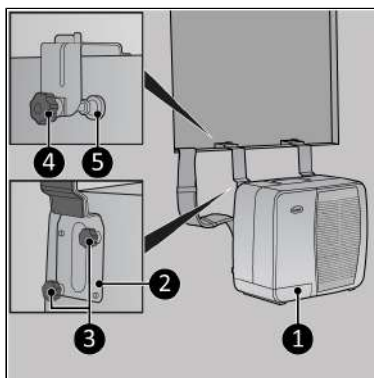

Figure 23.
1. Attach the bottom caravan brackets (Figure 23, pos. 2) to the outdoor unit (Figure 23, pos. 1) by tightening two screw caps per bracket (Figure 23, pos. 3).
2. Hang the outdoor unit (Figure 23, pos. 1) in the desired window, make sure the indoor unit is securely placed on a table or couch seat.
3. Tighten the adjustment bolt (Figure 23, pos. 4) per bracket. Make sure the bumper (Figure 23, pos. 5) is placed vertical.